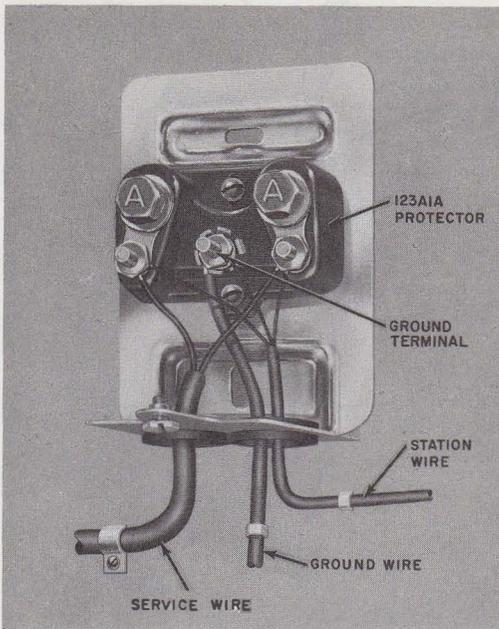
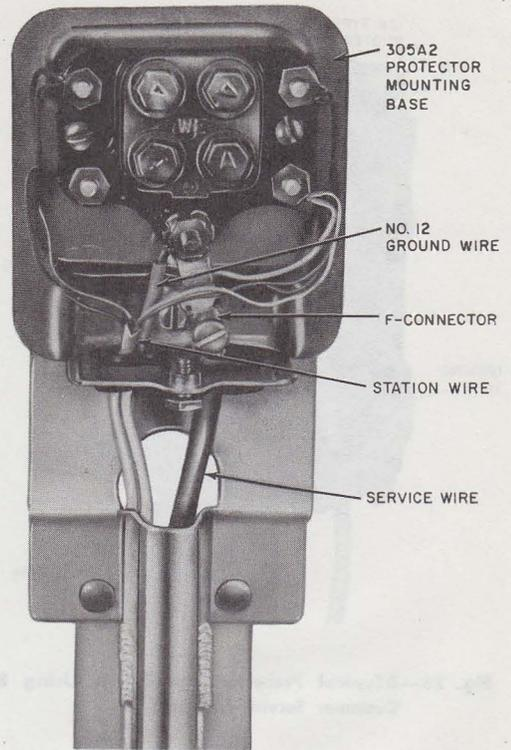

Fig. 24—123A1A Protector Installed in 305A2 Protector Mounting
Fig. 25—305A2 Protector Mounting Installed on a Protector Mounting Post
3.31 The 305A2 protector mounting consists of a metal base and a removable metal cover. The base has two slotted mounting holes and four tapped holes, two vertical and two horizontal, for installing 123- and 128-type protectors. Two screws are furnished with the mounting. The 305A2 protector mounting can be mounted on any flat surface (Fig. 24) or on a PMP (Fig. 25).